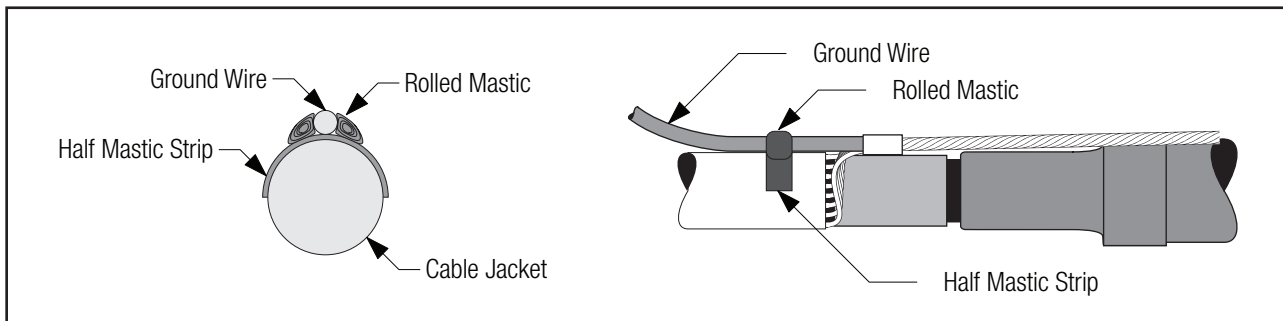

Figure 43
- 11.2 Cut one mastic sealing strip into two equal pieces. Place one piece on the cable jacket centered under the ground wire, near the jacket end. Roll the two remaining full length mastic strips into small rolls. Place one roll on each side of the ground wire (*Figure 43*).